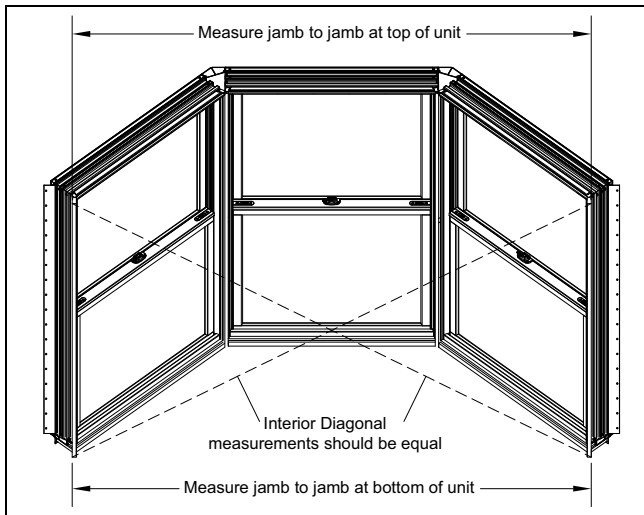

Figure 4
3. Refer to conversion chart on page 4 for proper jamb to jamb dimension (measured from outside to outside of jamb extension). Check jamb to jamb measurement at top and bottom of the assembly, it must be equal. Diagonal measurements of interior must also be equal to ensure mullied assembly is square. See Figure 4.